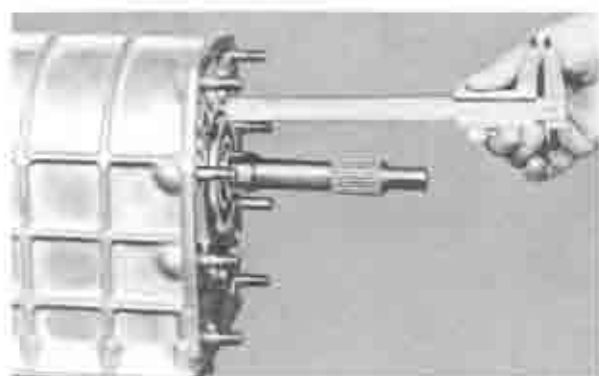

Fig. 7-34 Measuring bearing height
45. Check the bearing end play. Measure the depth of the bearing bore in the clutch housing using a depth gauge. Then, measure the bearing protrusion, as shown in Fig. 7-34. The difference between two measurements indicates the required thickness of the adjusting shim. The end play should be less than 0.1 mm (0.0039 in). The shims are available in the following thickness: